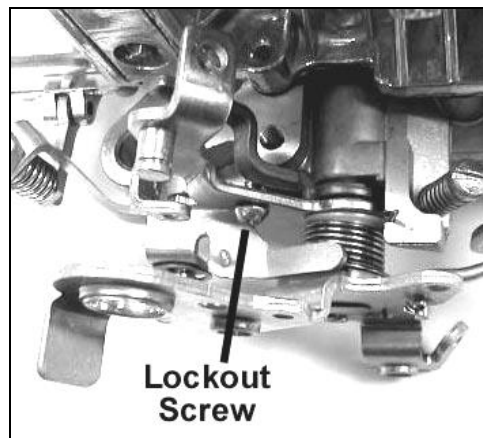

Figure 5
3. Remove the lock out screw from the kickdown lever (Figure 5).